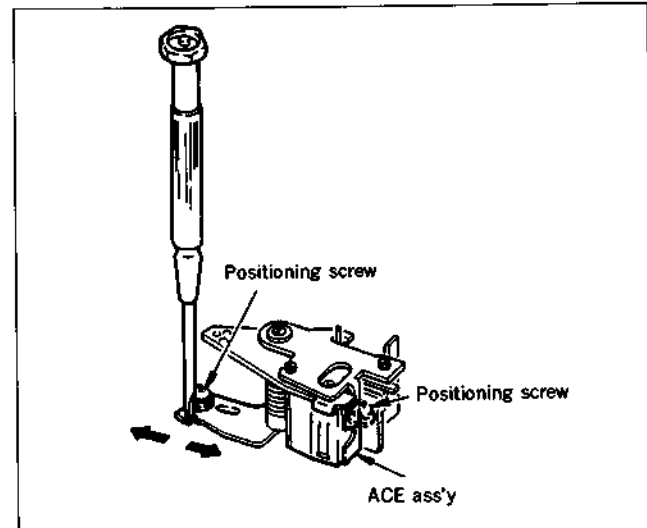

Fig. 7-46.
- (1) Set to the tracking center position (by simultaneously pressing the tracking buttons ▼ and ▲).
- (2) Loosen the two ACE ass'y positioning screws. Use a Phillips driver or other means to slide the ACE ass'y so that the amplitude of the RF output waveform is the largest (Fig. 7-46).
- (3) Reproduce the color bar signal of the alignment tape and check the picture quality.
- (4) Fix and lock the positioning screws.